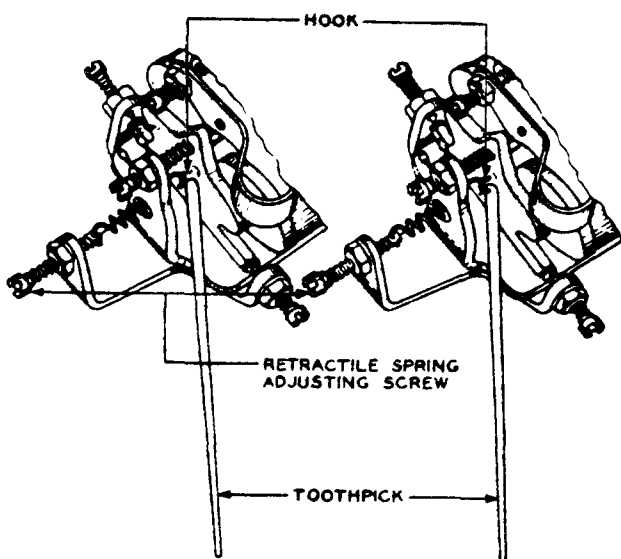

Fig. 6 - Method of Positioning the Hook
- (1) If the spring touches the frame, the fault may be due to a failure of the hook in the armature to turn properly, a bent hook, an incorrect position of the armature or armature bracket, or a distorted or bent retractile spring.
- (2) If the armature or armature bracket is not properly positioned, proceed as covered in 3.08 (3) and (10).
- (3) If the retractile spring is distorted or bent, replace it with a new open wound retractile spring.
(4) The hook in the armature must be free to turn when the retractile spring adjusting screw is turned. After each adjustment of the retractile spring adjusting screw, for the purpose of stabilizing this adjustment, turn the hook in the armature with the flat end of a toothpick in the same direction in which the retractile spring adjusting screw was turned. Turn the hook until the loop in the retractile spring stops following the hook in the armature. (See Fig. 6.) Adjust hooks which bind in the armature with the No. 485A pliers. If the hook still binds after adjusting, replace the armature and pivot screws. In this case, proceed as outlined in 3.08 to 3.12.